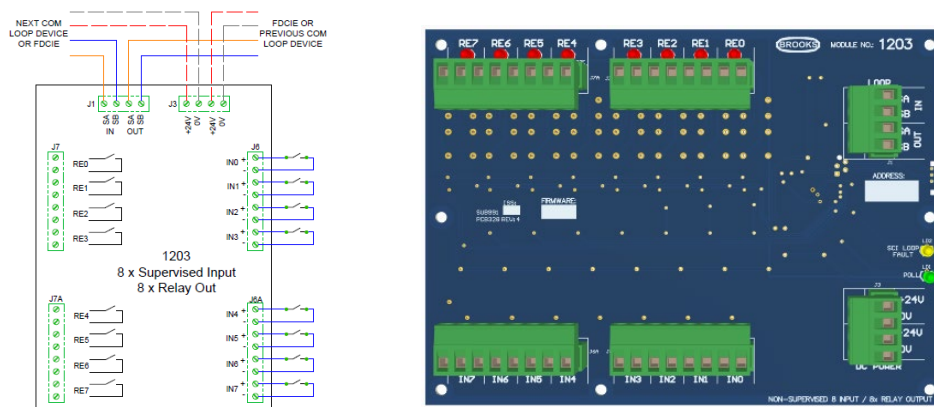

Figure 17 8/8 1203 I/O SUB991
The module is a programmable single supervised input / single relay output as shown in Figure 17 below. Used where a single device needs to be triggered (output) and a return signal is required to report that the action has been carried out (input), e.g. a sprinkler flow switch.
1202 or SUB994 comprises four programmable supervised inputs and four programmable relay outputs. The functions and programming of each input or output is identical to 1200 I/O module. Connection is similar to 1200 module shown in Figure 17 above, the PCB and connection diagram are shown in Figure 18 below. The supervised input requires 10K end of line resistor.
1203 – SUB991 I/O unit is designed to provide 8 x programmable non-supervised inputs and 8 x programmable relay outputs, no end of line resistor required. The relays are non-latching relays which requires external 24V_{DC} supply. Connection is similar to 1200 shown in Figure 17 page 38 but inputs are not supervised. The physical SUB991 board is shown in Figure 19 below. 1203 requires two consecutive addresses on the COM loop set in "Advanced Mode (3)".